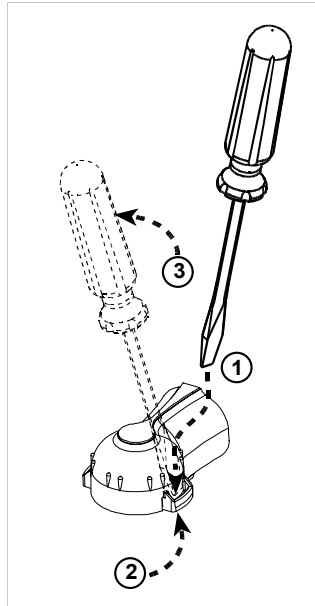

Figure 3-1 Removing the terminal cap
1. Using a flathead screwdriver as shown in Figure 3-1, place the blade in the lip of the cap and push it gently against the cap until it lifts off.